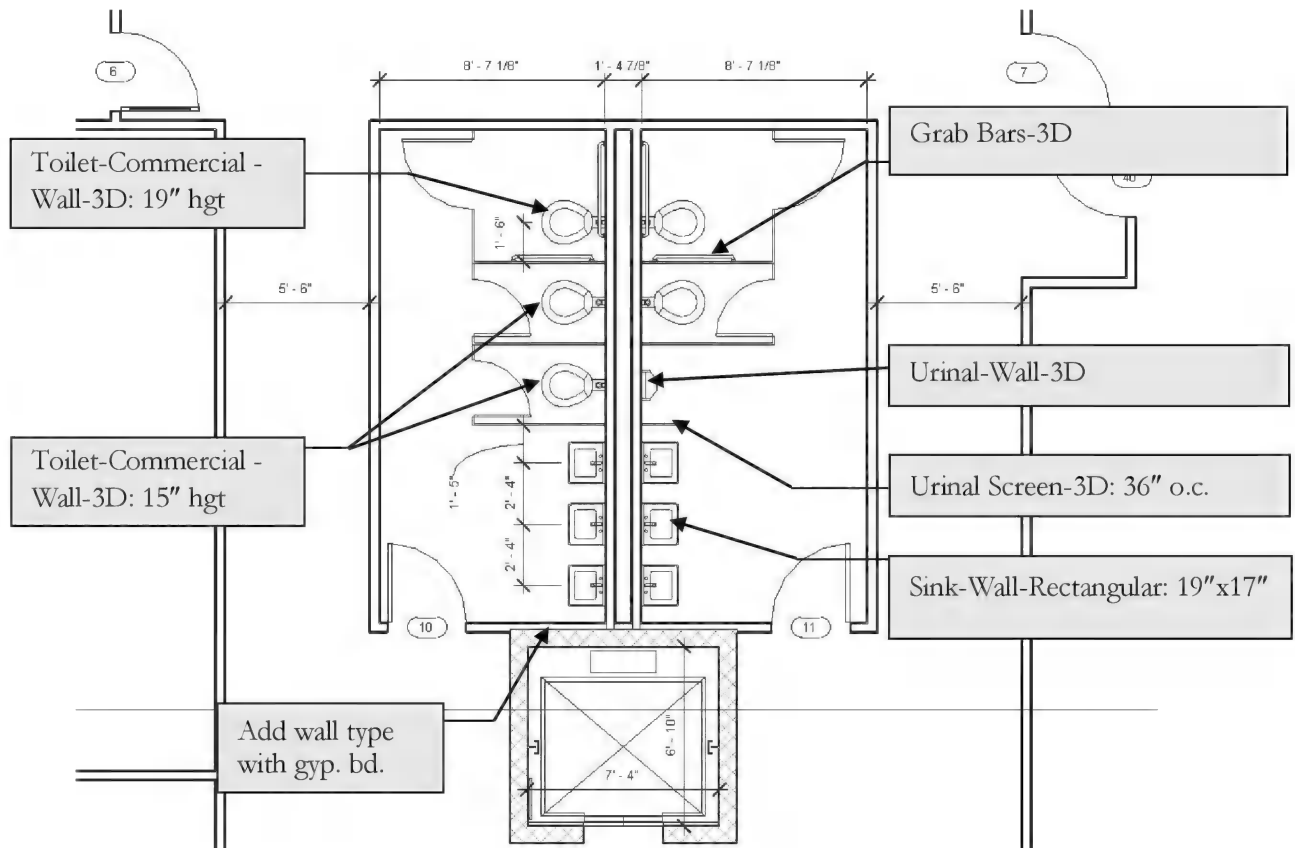

FIGURE 11-1.4 Toilet room layout
10. Add an additional  $4\frac{7}{8}"$  gyp. bd. wall as shown in **Figure 11-1.4**.
12. Add the additional components as shown in **Figure 11-1.4**.